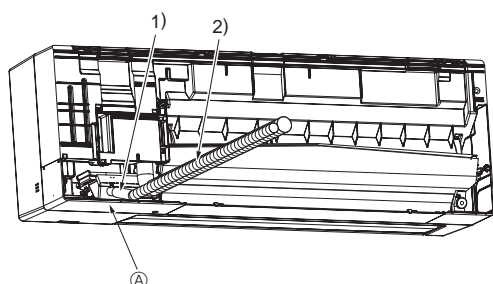

Fig. 3-8
3.3.2. Right rear and right bottom piping (For WL04/06/08 model) (Fig. 3-8)